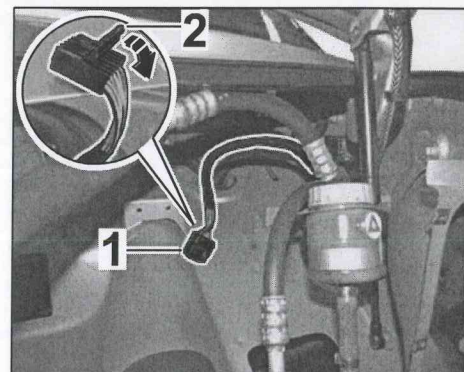

Figure 5
3.1 Open secondary lock on the connector housing (6-pin) (\Rightarrow Figure 5 -inset-) and press out the six connector pins using the required press-out tool.